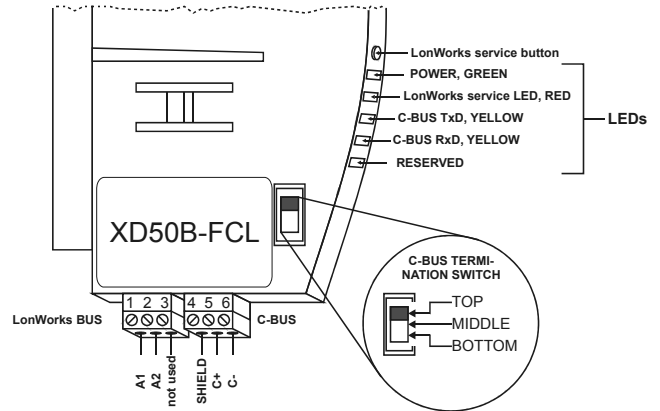

Fig. 35. XD50B-FCL Application Module
The XD50B-FCL Application Module (see Fig. 35) is equipped with a DIP switch for the C-Bus which you can use to set the bus termination appropriate for the communication speed.
3. Connect the cable shield to C-Bus terminal 4 (see Fig. 35).
4. Connect the C+ cable to C-Bus terminal 5 (see Fig. 35).
5. Connect the C- cable to C-Bus terminal 6 (see Fig. 35).